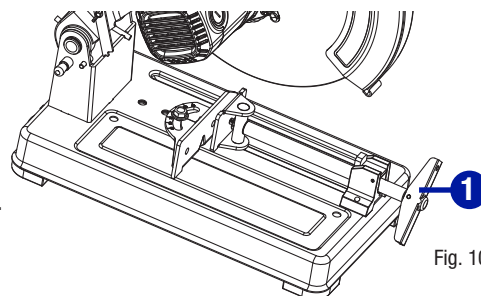

Fig. 10
- Open the vice clamp by turning the vice handle (1) 5 or 6 turns counter-clockwise. (Fig. 10)